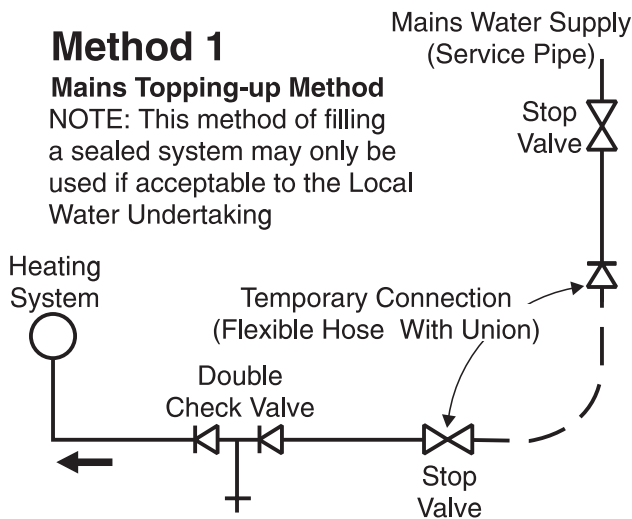

Fig. 3
- ii) where access to a make-up vessel would be difficult by using the mains top up method or a remote automatic pressurisation and make-up unit as shown in Figs. 3 & 4.
The system shall be fitted with a filling point at low level which incorporates a stop valve to BS 1010 and a double check valve of an accepted type to be fitted in this order from the system mains, see Fig. 3.